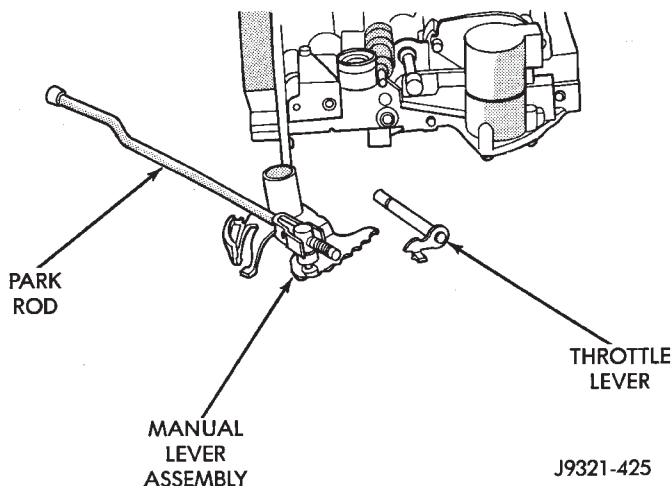

Fig. 74 Manual And Throttle Lever
(15) Remove manual lever and throttle lever (Fig. 74). Rotate and lift manual lever off valve body and